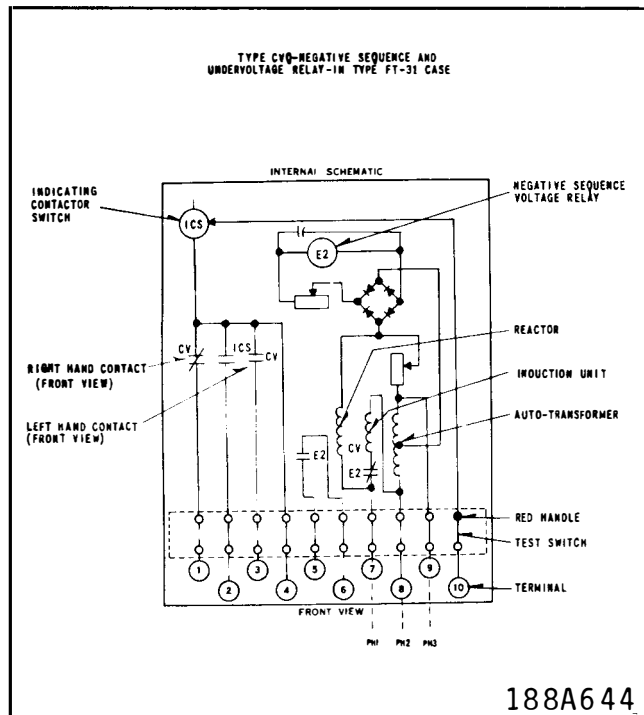

Fig. 1. Internal Schematic of the Type CVQ Relay.
The type CVQ relay consists of a polar Unit (E) operating on negative sequence quantities, a negative sequence voltage filter, full wave bridge, a time undervoltage relay (CV), an indicating contactor switch (ICS) and a telephone relay when used. The principal component parts of the relay and their location are shown in Figure 1.
The voltage filter consists of an auto-transformer, reactor, and resistors connected as shown in the internal schematic Fig. 1.